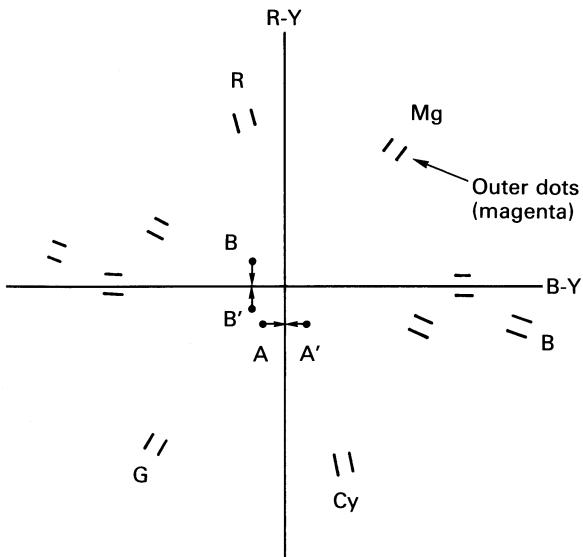

Fig. 6 Vector Pattern of G-card Signal
- 8) Set the oscilloscope to the X-Y mode. Connect TP46 (B-Y OUT) and TP45 (R-Y OUT) to the oscilloscope horizontal and vertical inputs respectively to display a vector pattern on the screen. (Fig. 6)
- 13) Detune L601 so that the movable dots may be shifted and distinguished from the center bright point. (Fig. 6)
- 14) Observing the movable dots, A and B, adjust SUB-COLOR control VR601 on PCB-MAIN so that the double dots shifted in step 13) may come up to the nearest points of X or Y axis, (Fig. 6).